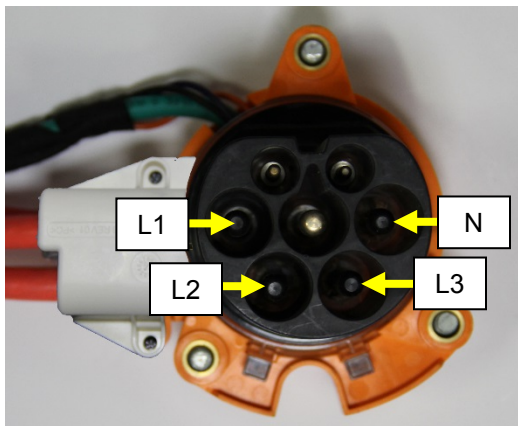

Figure 50
1. Use a multimeter to verify that the charge port HV harness pinout locations are correct (Figures 50 and 51). Check for continuity between these locations:
- a. For incorrect charge port pin positions: Repeat the “Charge Port Pin Carrier Replacement” section of this document so that the pins match the positions listed on figure 50, then repeat step 1.